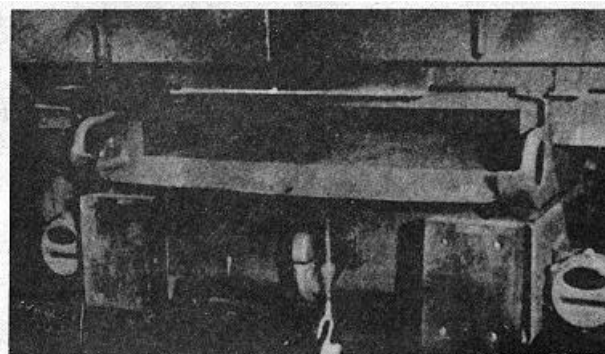

Figure 6. Jack stowage box.
(6) To drain system, open all valves; place water pump switch in OFF position.
d. Secure tools or equipment too large for bin storage, in space provided (fig. 6).